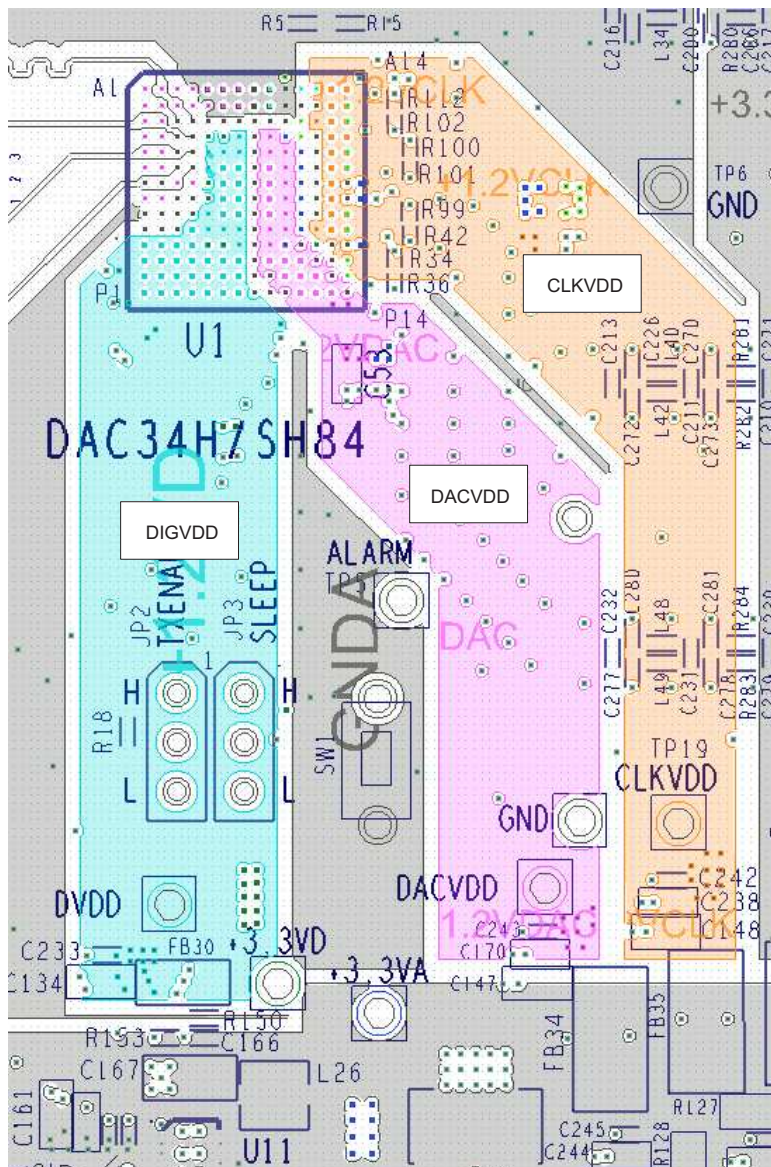
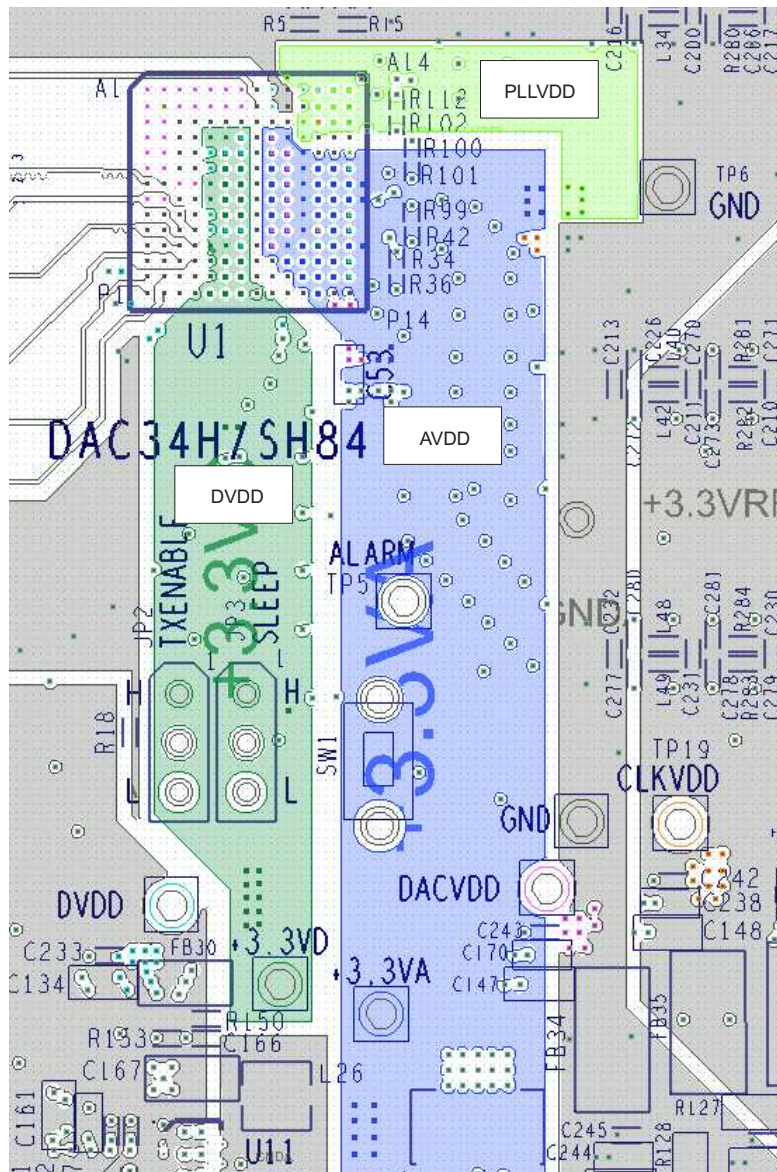

Figure 98. Third Layer of DAC34H84 Layout Showing Power Layers. Layout Example from DAC34H84EVM Rev H
Figure 99. Sixth Layer of DAC34H84 Layout Showing Power Layers. Layout Example from DAC34H84EVM Rev H
The following layout guidelines correspond to the layouts shown in Figure 98 and Figure 99.
2. As shown in Figure 98 and Figure 99, both layers three and four are designated for power supply planes. The DAC analog powers are all in the same layer to avoid coupling with each other, and the planes are copied from layer three to layer four for double the copper coverage area.